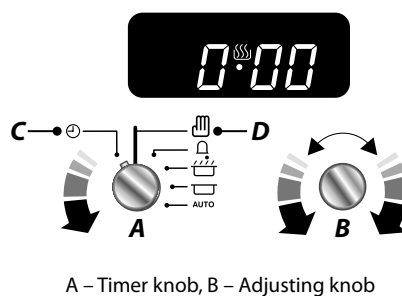

Fig. 3.1
2. To set the time, turn the **Timer (A)** knob to the **Clock (C)** setting and back to the **Manual (D)** position. The center dot will flash, indicating the time can be set. Turn the **Adjusting (B)** knob either clockwise or counter-clockwise (**Fig. 3.1**) to set the time.